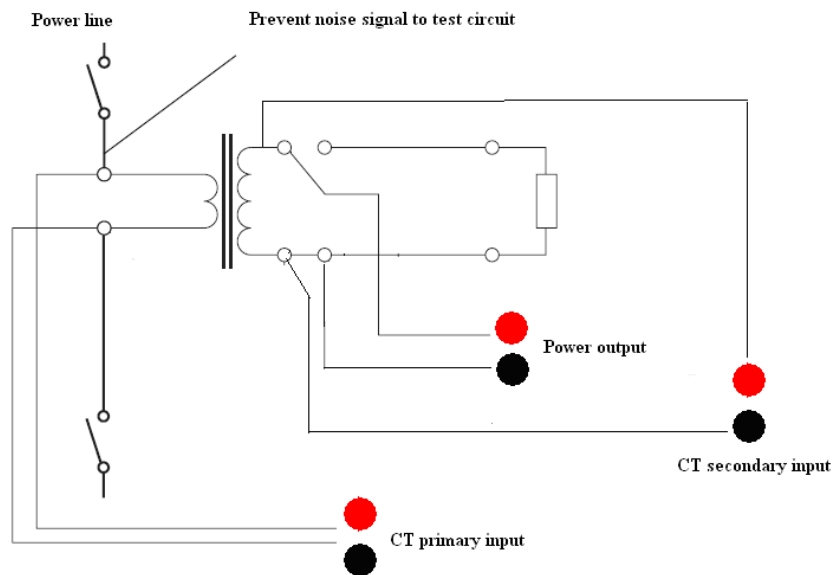

Figure 3.4 Reference connections for CT analysis, ratio and polarity test
- 1) Connect Analyzer grounding terminal to protection earth (PE).
- 2) Disconnect power line connection in primary of CT as figure 3.4. Power line which is not connected to earth will bring lots of noise signal when testing.
- 9) Please keep the voltage measurement connection behind the power output connection so that contact resistance has no effect in test results. Reference connection is showed as figure 3.4
- 5) Please keep the voltage measurement connection behind the power output connection so that contact resistance has no effect in test results. Reference connection is showed as figure 3.4
- 10) Please keep the voltage measurement connection behind the power output connection so that contact resistance has no effect in test results. Reference connection is showed as figure 3.4
- 8) Please keep the voltage measurement connection behind the power output connection so that contact resistance has no effect in test results. Reference connection is showed as figure 3.4